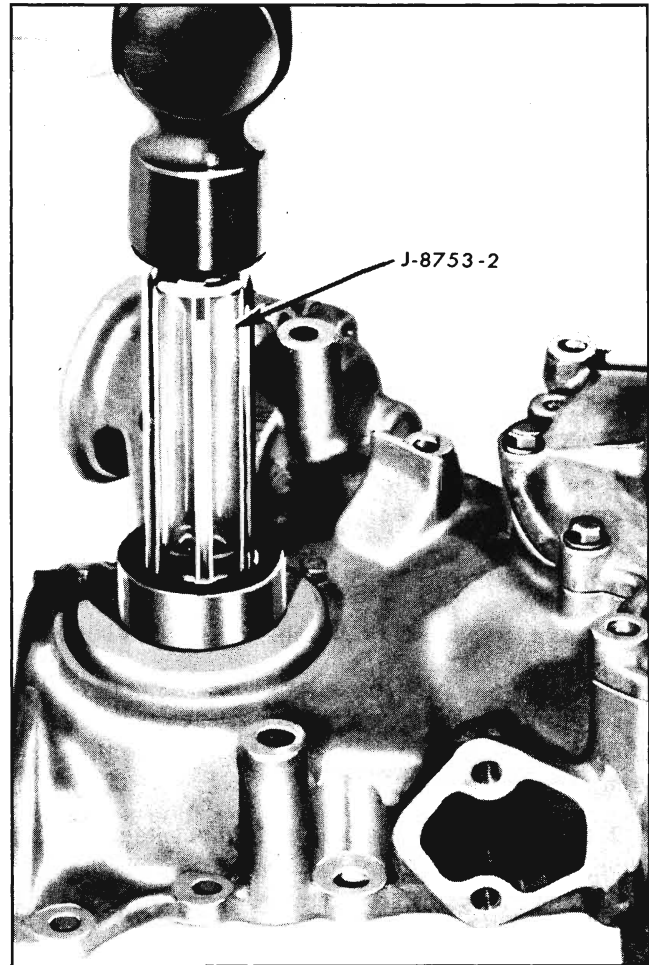

Fig. 6-100 Sizing Shedder
d. Size the packing by driving tool J-8753-2 through packing from front toward rear (Fig. 6-100).